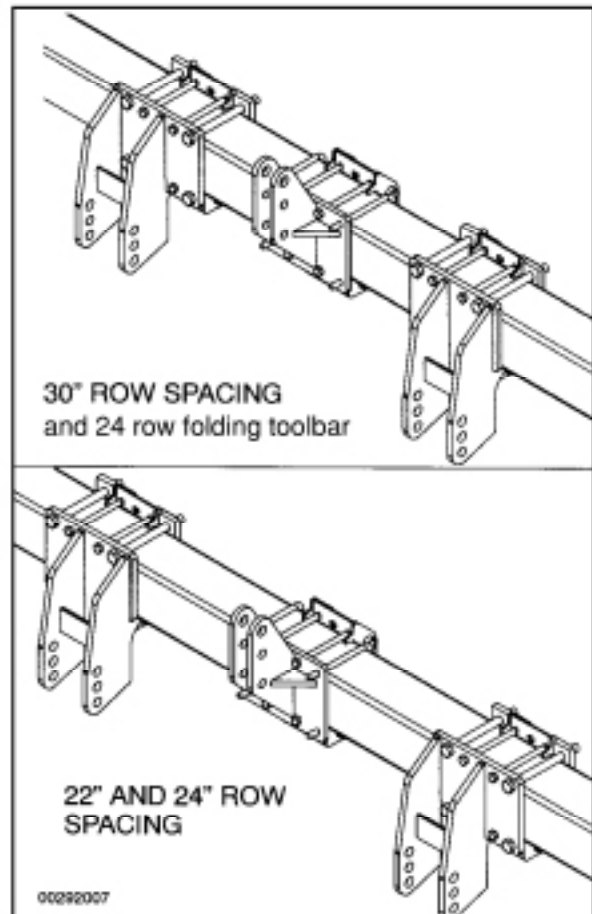

Figure 3 Hitch Mounting Positions
3. Identify hitch mounting positions according to Figure 3.